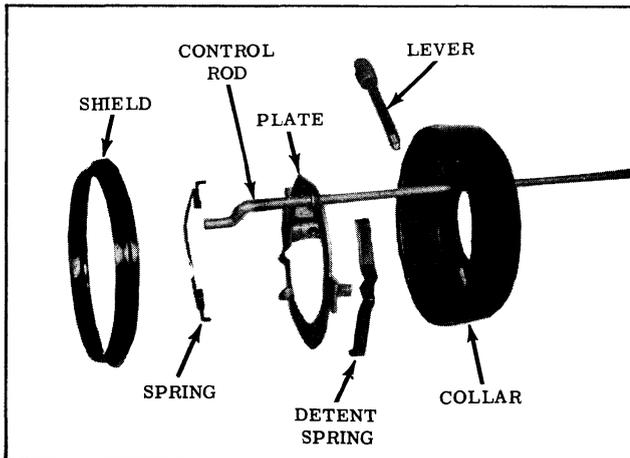

Fig. 5-95 Turn Signal Collar (Hydra-Matic)
4. If necessary to disassemble the turn signal collar, move the turn signal lever to the left turn position and slide the turn signal rod from the collar. (See Fig. 5-95) Unscrew the lever from the collar, then pry the ring from the collar. From the upper side of the turn signal collar, remove the plate from the collar.